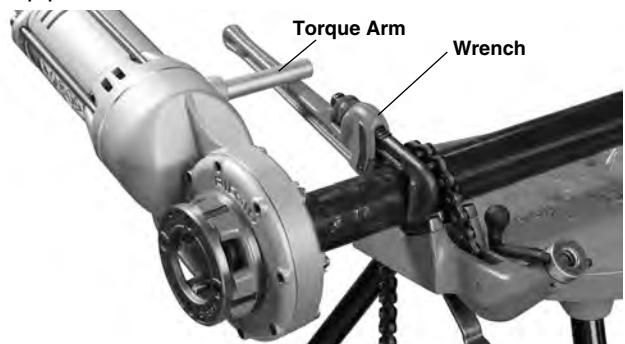

Figure 7 – Threading Using Pipe Wrench as a Support Arm
- Place the RIDGID 12", 14" or 18" Heavy Duty Pipe Wrench approximately 7" (175 mm) from the end of the pipe (see *Figure 7*). Test to confirm the wrench is secure, and will not fall or move.